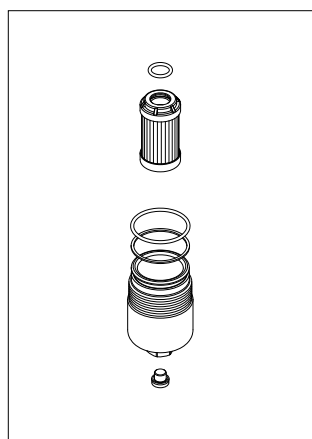

fig. 23
- (Fig. 23) Fit #1: the anti-extrusion ring and #2: the O-ring in the bowl groove, insert the O-ring in the filter element cap